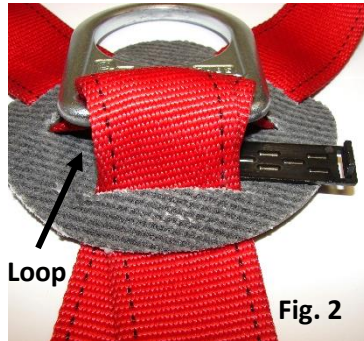

Fig. 2
2. Below the Fall Arrest attachment and above the single chafe slot pull the two webbing straps away from the chafe to form a loop. Insert one half of the retro keeper under the loop (Fig.2)